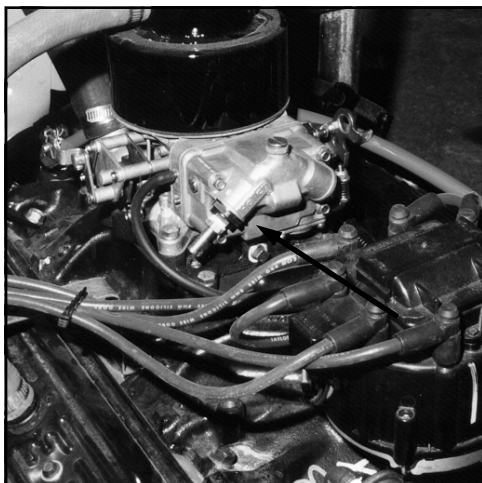

FIG 7.31
**CARBURETOR** - (fig. 7.31) The carburetor is also equipped with an in-line fuel filter. Note direction of fuel flow arrow when replacing.